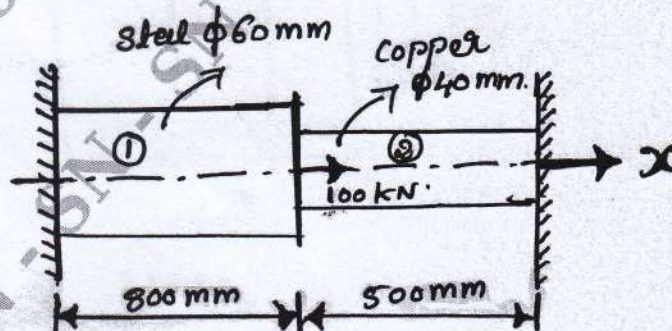

Fig Q3(b)
b. A compound bar is loaded as shown in Fig Q3(b) $E_{\text{Steel}} = 200\text{GPa}$, $E_{\text{CU}} = 100\text{GPa}$, using elimination method of boundary condition, find